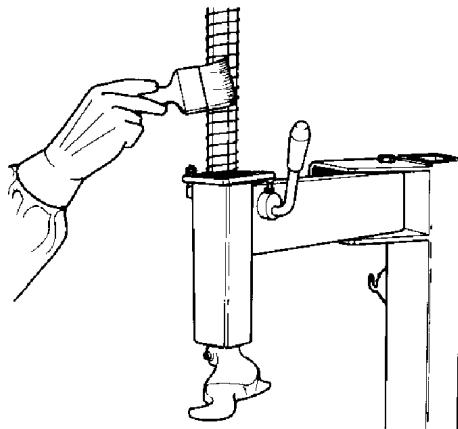

Fig. 6.0-1
- A. Periodically clean the vertical hexagonal rod with liquid detergent. After this immediately lubricate with a light lubricating oil (Fig. 6.0-1).